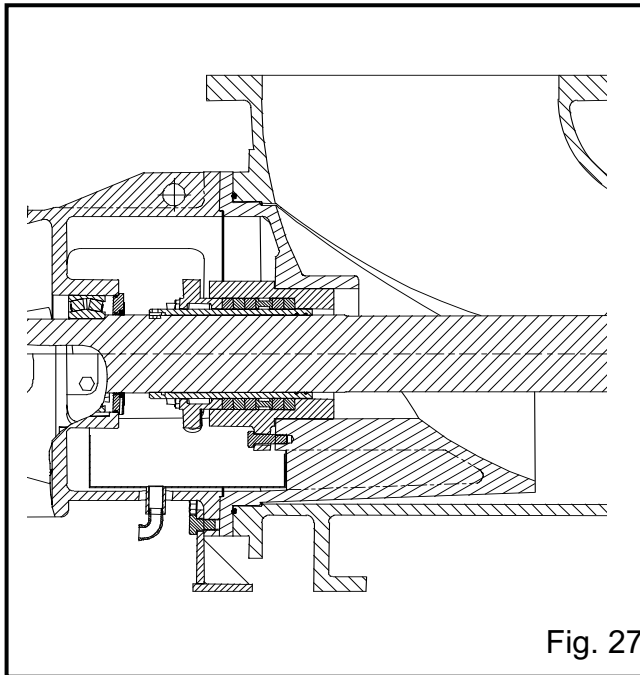

Fig. 27
9. Insert the lantern ring with tapped extractor holes facing outward from the box, be sure it is aligned with the flush ports in the stuffing box, see Fig. 27.